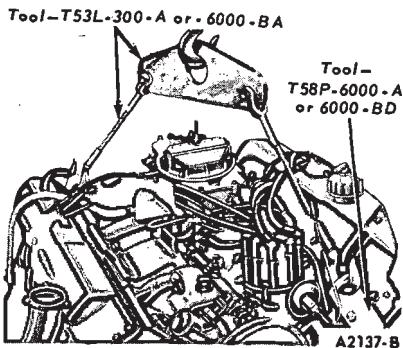

FIG. 48—Typical Engine Lifting Bracket and Sling
left lifting bracket on the front of the left cylinder head, and install the engine right lifting bracket at the rear of the right cylinder head. Then attach the engine lifting sling (Fig. 48).
1. Attach the engine lifting brackets and sling (Fig. 48).
13. Lower the vehicle and support the transmission. Install the engine left lifting bracket on the front of the left cylinder head, and install the engine right lifting bracket at the rear of the right cylinder head, then attach the engine lifting sling (Fig. 48).
2. Attach the engine lifting brackets and sling (Fig. 48).